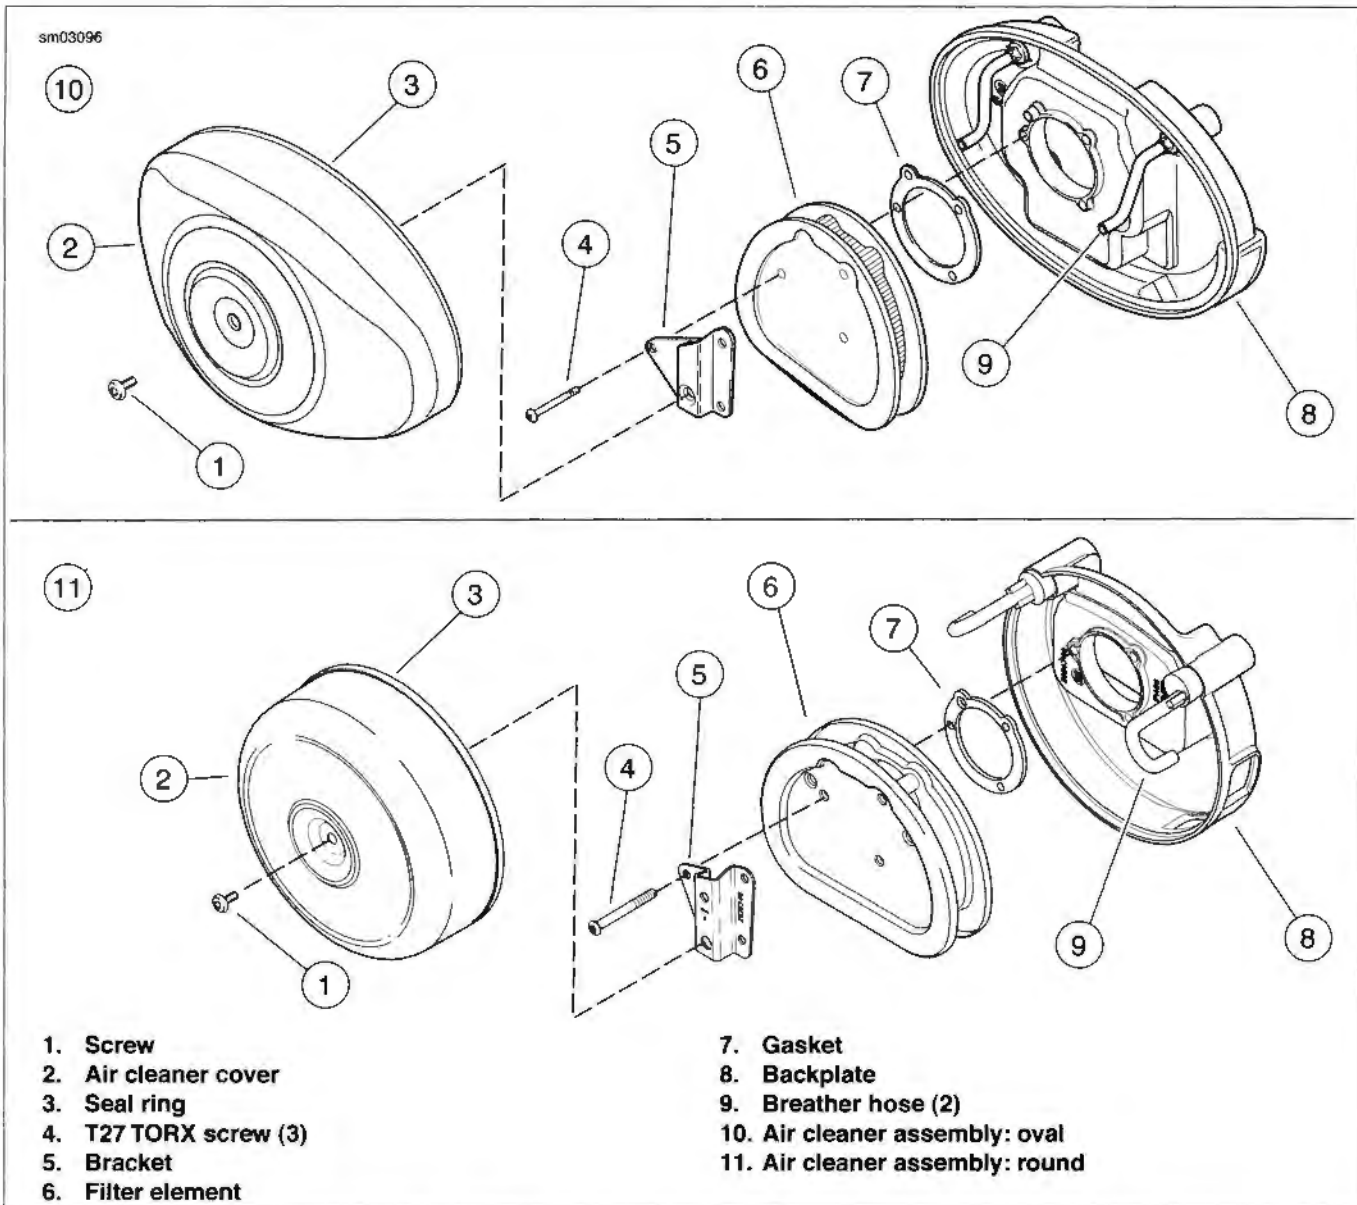

Figure 1-6. Air Cleaner Assembly
1. See Figure 1-6. Remove screw (1) and air cleaner cover (2).
2. Remove three TORX screws (4) and bracket (5) from filter element (6).
3. Gently pull both rubber breather hoses (9) from the element. Remove filter element (6) and gasket (7).
4. See Figure 1-6. Install air filter element and bracket.
- b. Use three TORX screws (4) to secure bracket and filter element. Tighten to 40-60 **in-lbs** (4.5-6.8 Nm).
5. Install air filter cover (2).
- a. Apply a drop of **LOCTITE THREADLOCKER 243** (blue) to threads of air cleaner cover screw (1).